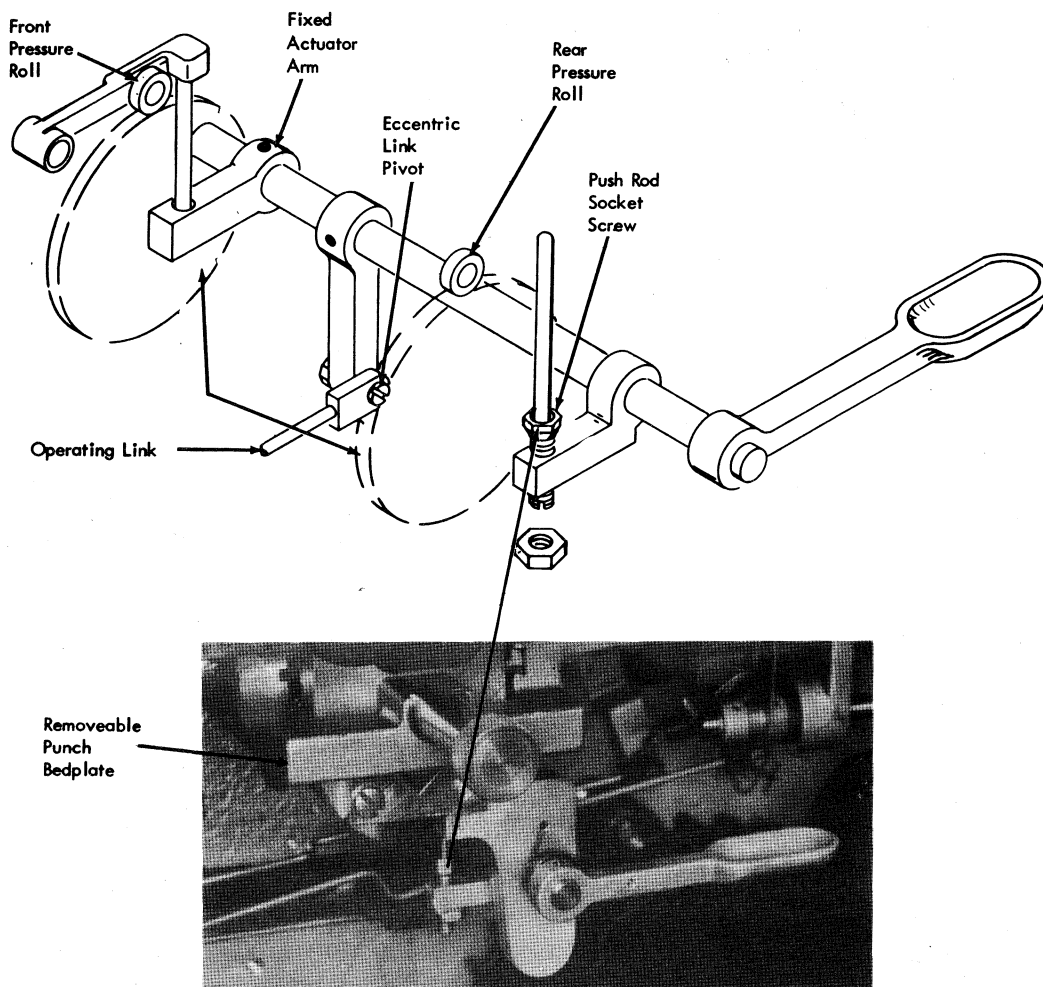

Figure 4-24. Punch Feed Pressure Roll Adjustment
2. At  $345^\circ$  to  $350^\circ$ , insert  $1/2$  of a card (cut lengthwise) under front punch pressure roll and adjust eccentric link pivot until front pressure roll just tightens on card (Figure 4-24).